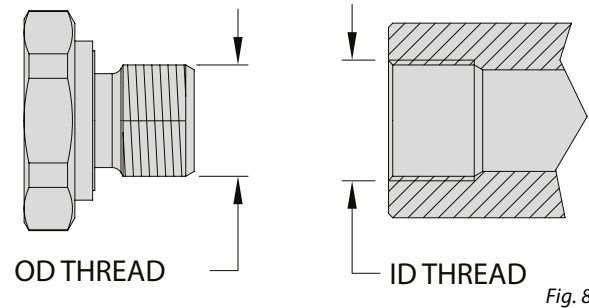

Fig. 8
**British Standard Pipe Parallel (BSPP or G)** is a common thread in Europe. This is a straight thread that is sealed by the use of a gasket or O-ring (Fig. 8).